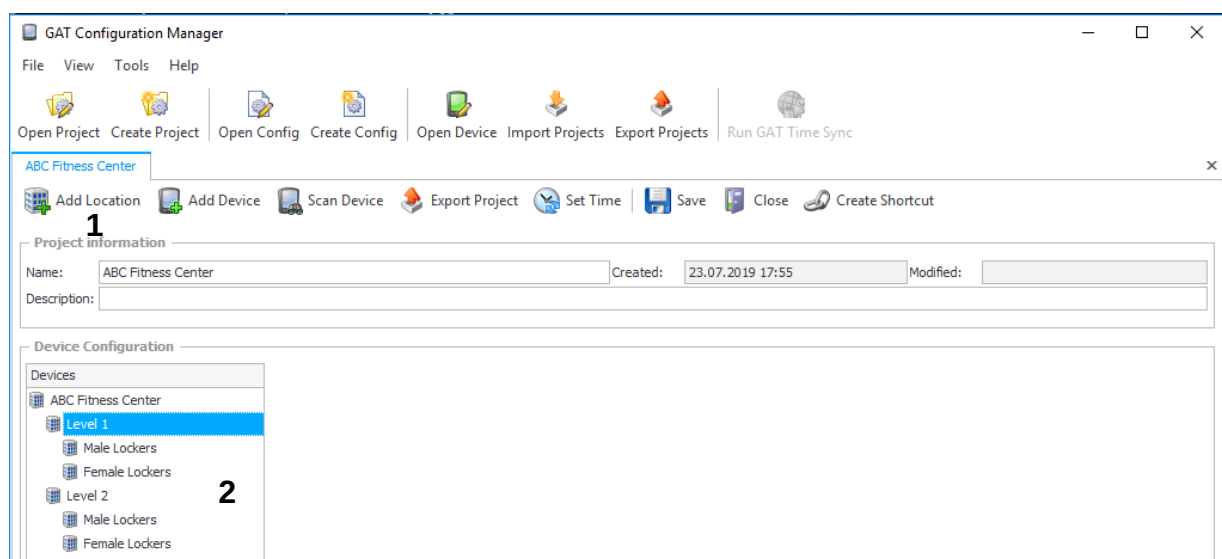

Figure 3.3 – GAT Config Manager – Add location
- ▶ Once a project is established, locations and sub-locations for the project can be added to the "Devices" directory (2 in Figure 3.3) by clicking on the "Add location" button (1 in Figure 3.3).